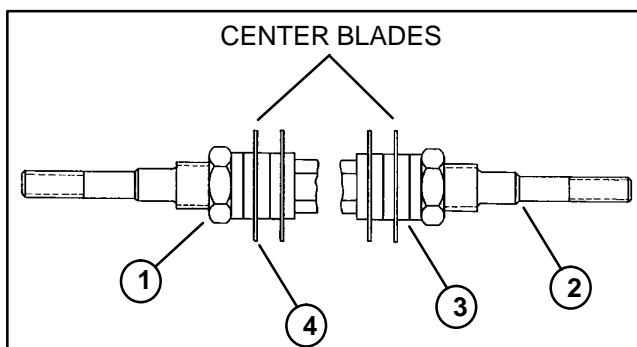

Figure 9
1. Remove one lock nut from either end of the shaft (Fig. 9).
1. Start placing two spacers against the lock nut. Then, place blade against spacers (Fig. 9).
3. Make sure there are two spacers between each blade. Blades and spacers should be centered on the shaft (Fig. 9).